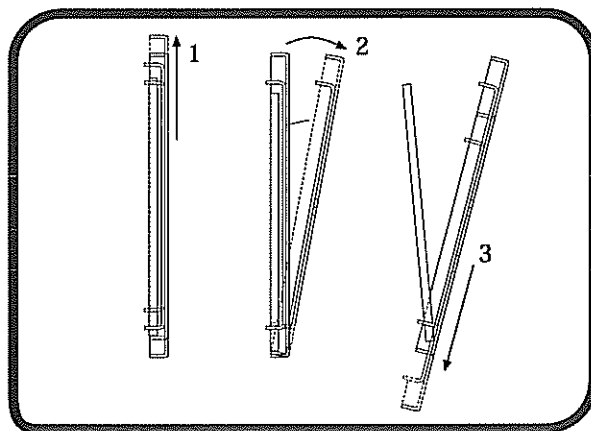

Fig. 7
- Remove the front door, carefully pushing it upward (fig 7).